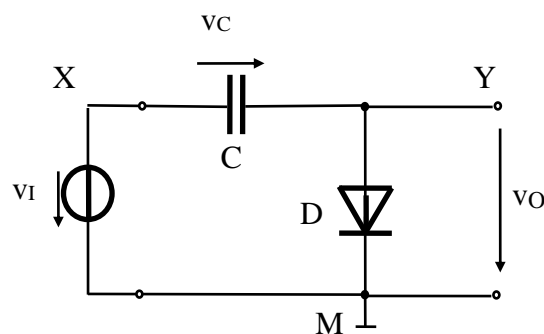

Fig. 4. Downward translation two-port
- How do the waveforms for $v_O(t)$ and $v_C(t)$ look like, in steady state, for the circuits shown in Fig. 3 and Fig. 4 if $v_I(t)$ is a sinusoidal voltage with 0.3 V amplitudes?
Build the circuit shown in Fig. 4.